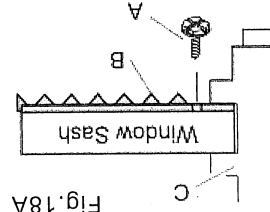
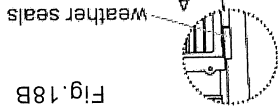

Fig. 18A
Fig. 18B
2. Use a 1/8" drill bit to drill a starter hole through the hole in the top leg of each window filler panel and into the window sash (Fig. 18A and Fig. 18B). Connect with one 3/4" (or 1/2") long hex head screw.